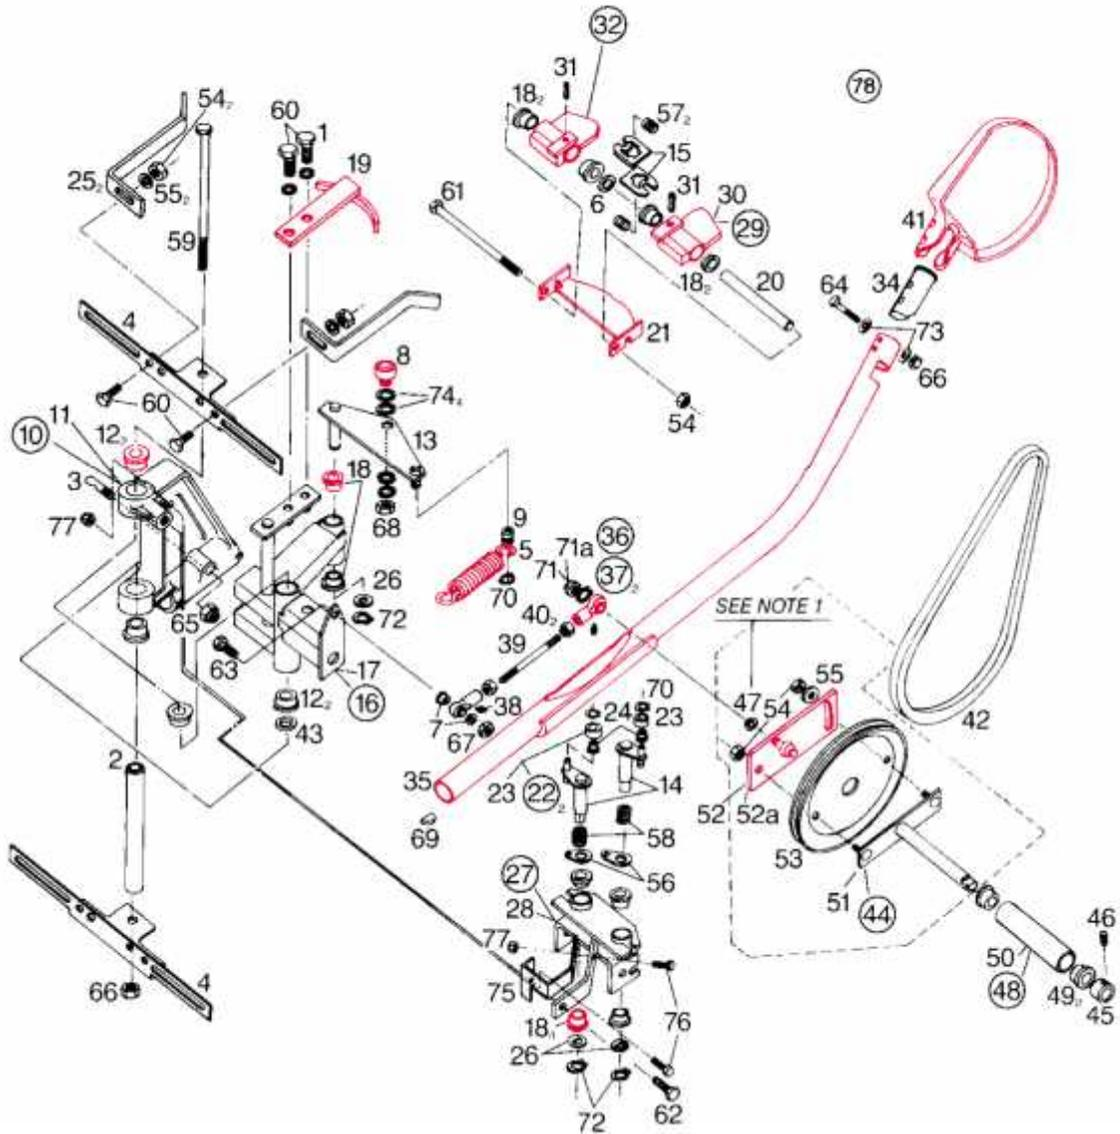

Figure 7
Figure 7 is the light ball sensor assembly. Locate items 19, 25, 39, and 52. Each item does one of the four choices below.